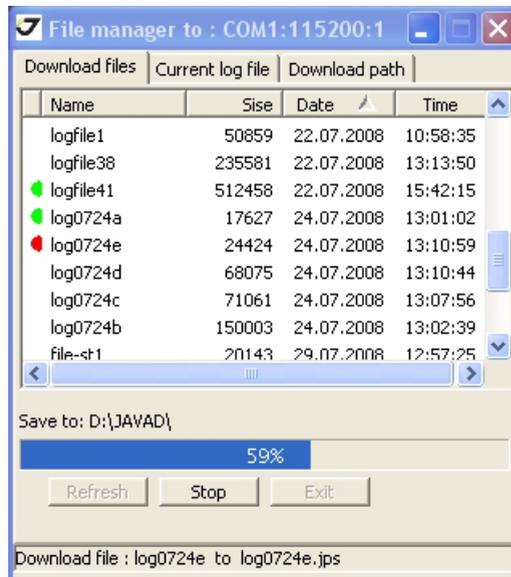

Figure 5-4. Download Files – Status Indicators
- 7. Click the *Download* button. During the download, status indicators display next to each file (Figure 5-4 on page 78).